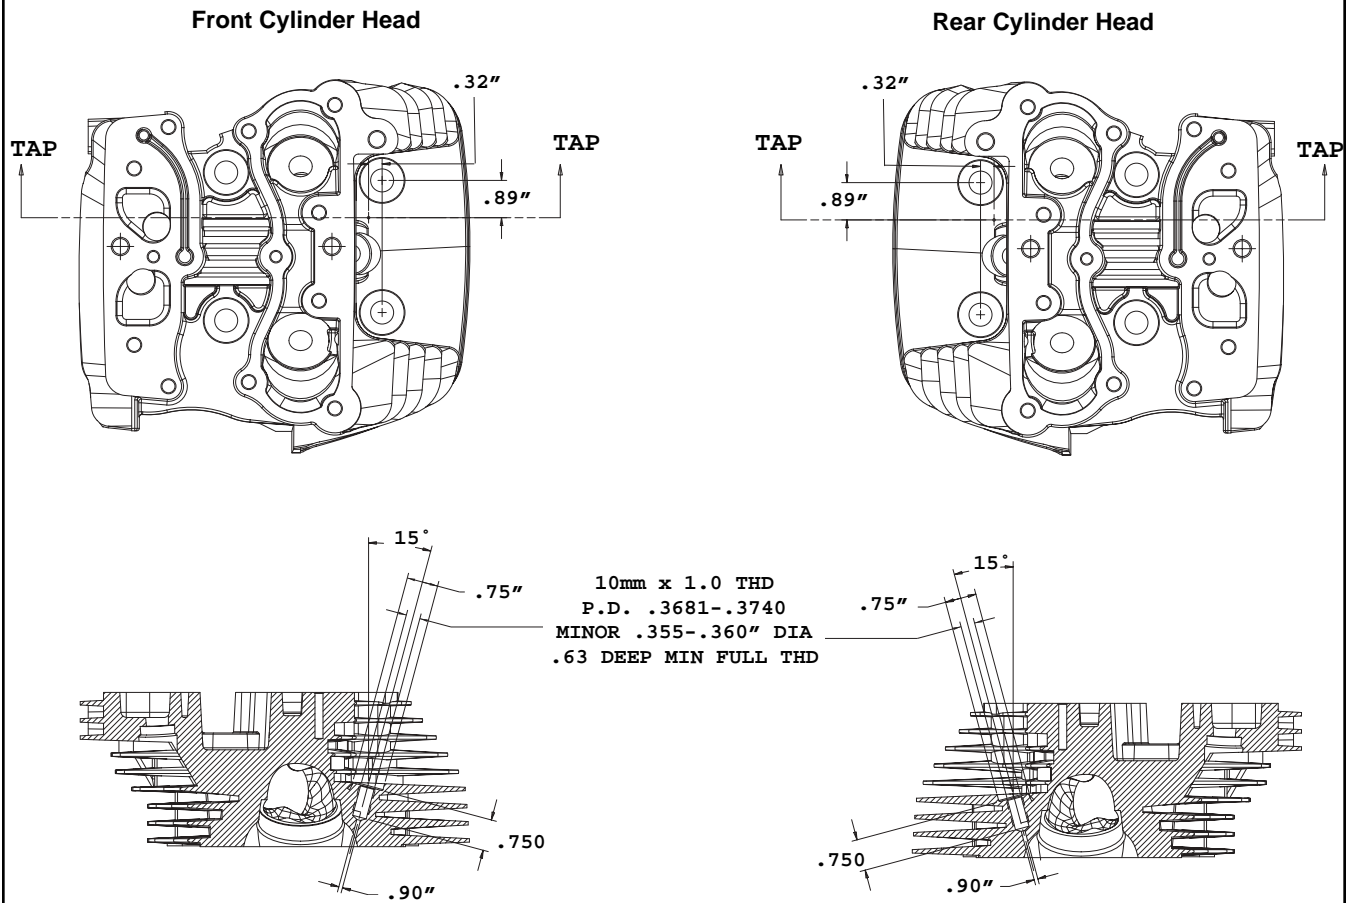

Figure 1. Cutaway through Cylinder Head
2. See Figure 1. Starting with the front cylinder head, mark a point which is .89 inches forward of the rear head bolt mounting hole and .32 inches inward from a line joining the centers of the head bolt holes.